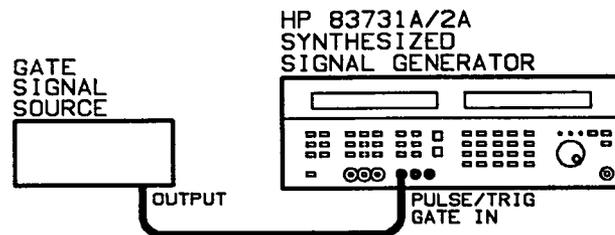

Figure 3-9. Gated Pulse Modulation Equipment Setup
1. Connect the equipment as shown in Figure 3-9:
To program the Synthesizer to generate the signal explained above, connect the equipment as shown in Figure 3-9, set the gate signal source for the desired gate signal characteristics, and then run the following program.